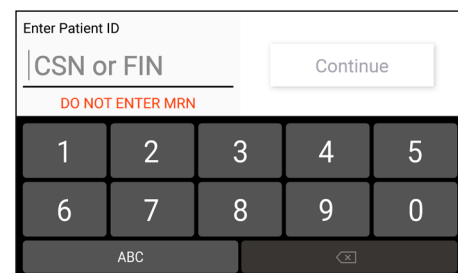

Figure 2. Patient ID entry screen
2. Enter the patient's unique identifier (ID) and press continue. (Fig. 2) The patient ID refers to the patient's numeric or alphanumeric identifier associated with the patient-specific hospital encounter for that admission (i.e. CSN or FIN). This is not the patient's medical record number (MRN).